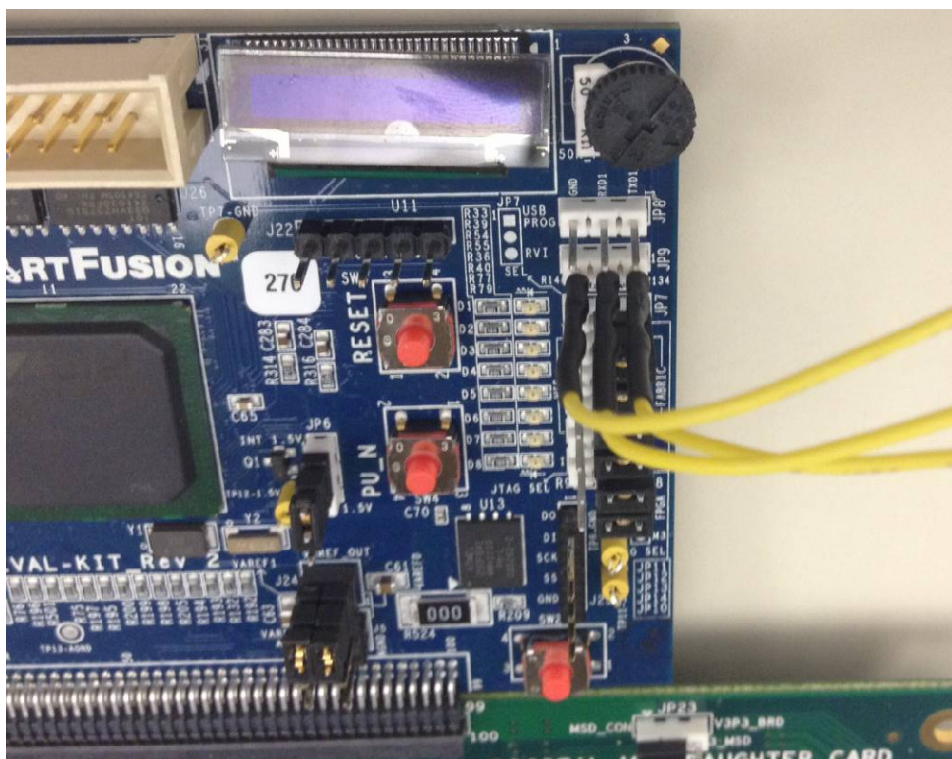

Figure 13 · SmartFusion Evaluation Kit Board
7. Figure 13 is an image of the wires connected to jumper JP9 on the EVAL board.